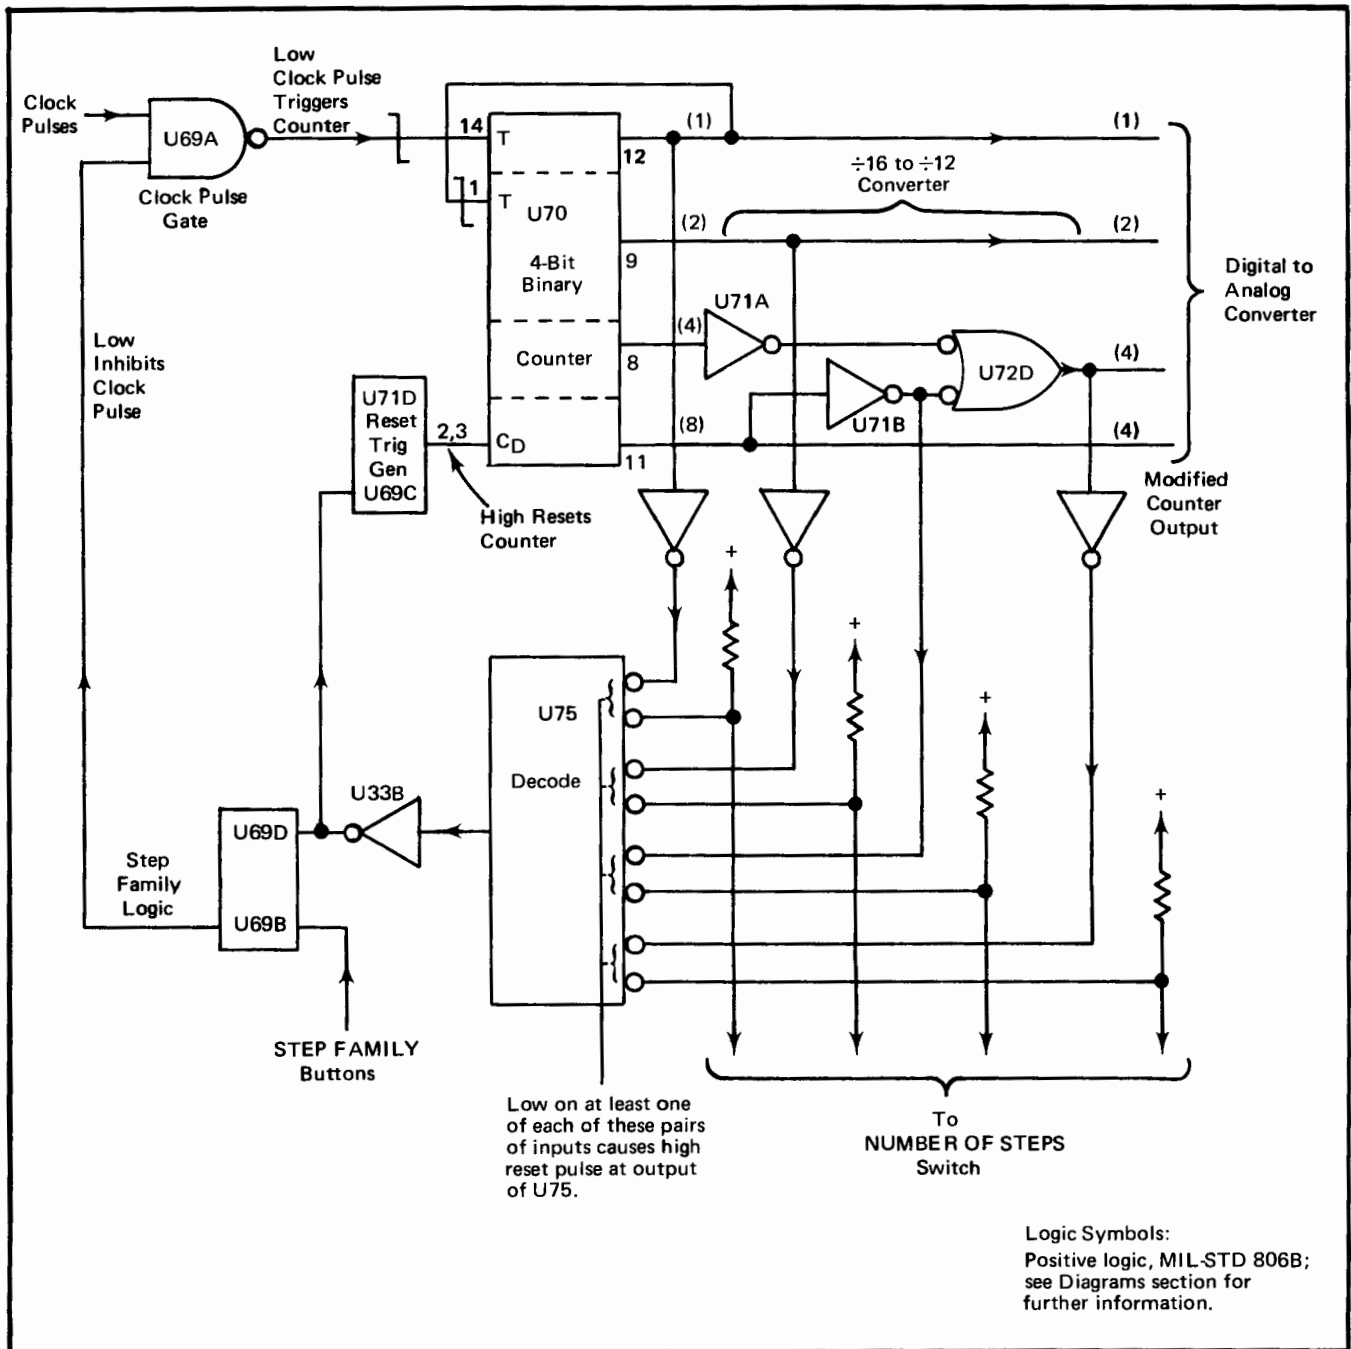

Fig. 3-5. Block diagram of counter and reset logic.
Simplified schematics of each of these circuits are shown in Figs. 3-5, 3-6 and 3-7. Pertinent information such as internal logic diagrams, truth tables, timing charts and descriptions of operation are given in Fig. 8-1 at the beginning of the Diagrams section, for all the logic devices used in the Step Generator circuit. Logic level information for these logic devices is shown in blue on the Step Generator schematic. Familiarity with the logic symbols and related truth tables of these logic devices will greatly aid in understanding the following description.
**Counter.** When the clock circuit generates a clock pulse, it is counted by the counter (see Fig. 3-5). The counter counts clock pulses until it reaches a preset number, then resets and begins counting again. Each time the counter counts, it changes a four-bit binary code which is applied to the digital-to-analog converter.
U70 is a divide-by-16 counter with the outputs of all four of its internal flip-flops utilized (see Fig. 3-5). A negative pulse at the pin 14 input of U70 causes a count to be recorded by the flip-flops. In recording a count, the flip-flops assume high or low states according to a 1-2-4-8 binary code. A high state represents the presence of either a 1, 2, 4 or 8. A low state represents a 0. Output terminals 12, 9, 8 and 11 of U70 represent 1, 2, 4 and 8 respectively. By connecting pin 8 and pin 11 of U70 to U72D through inverters, the 1-2-4-8 code of the U70 outputs is modified to a 1-2-4-4 code. The truth table in Table 3-1 shows the state of each modified counter output for successive counts counted by U70 up to 11. Whenever U70 is reset, it returns to the zero count state with lows on all the outputs.